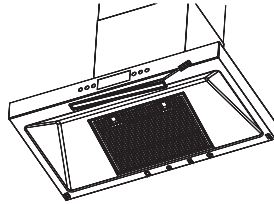

Fig 16
- Kick off the LED lamps by using the flat screw driver(Fig 16).